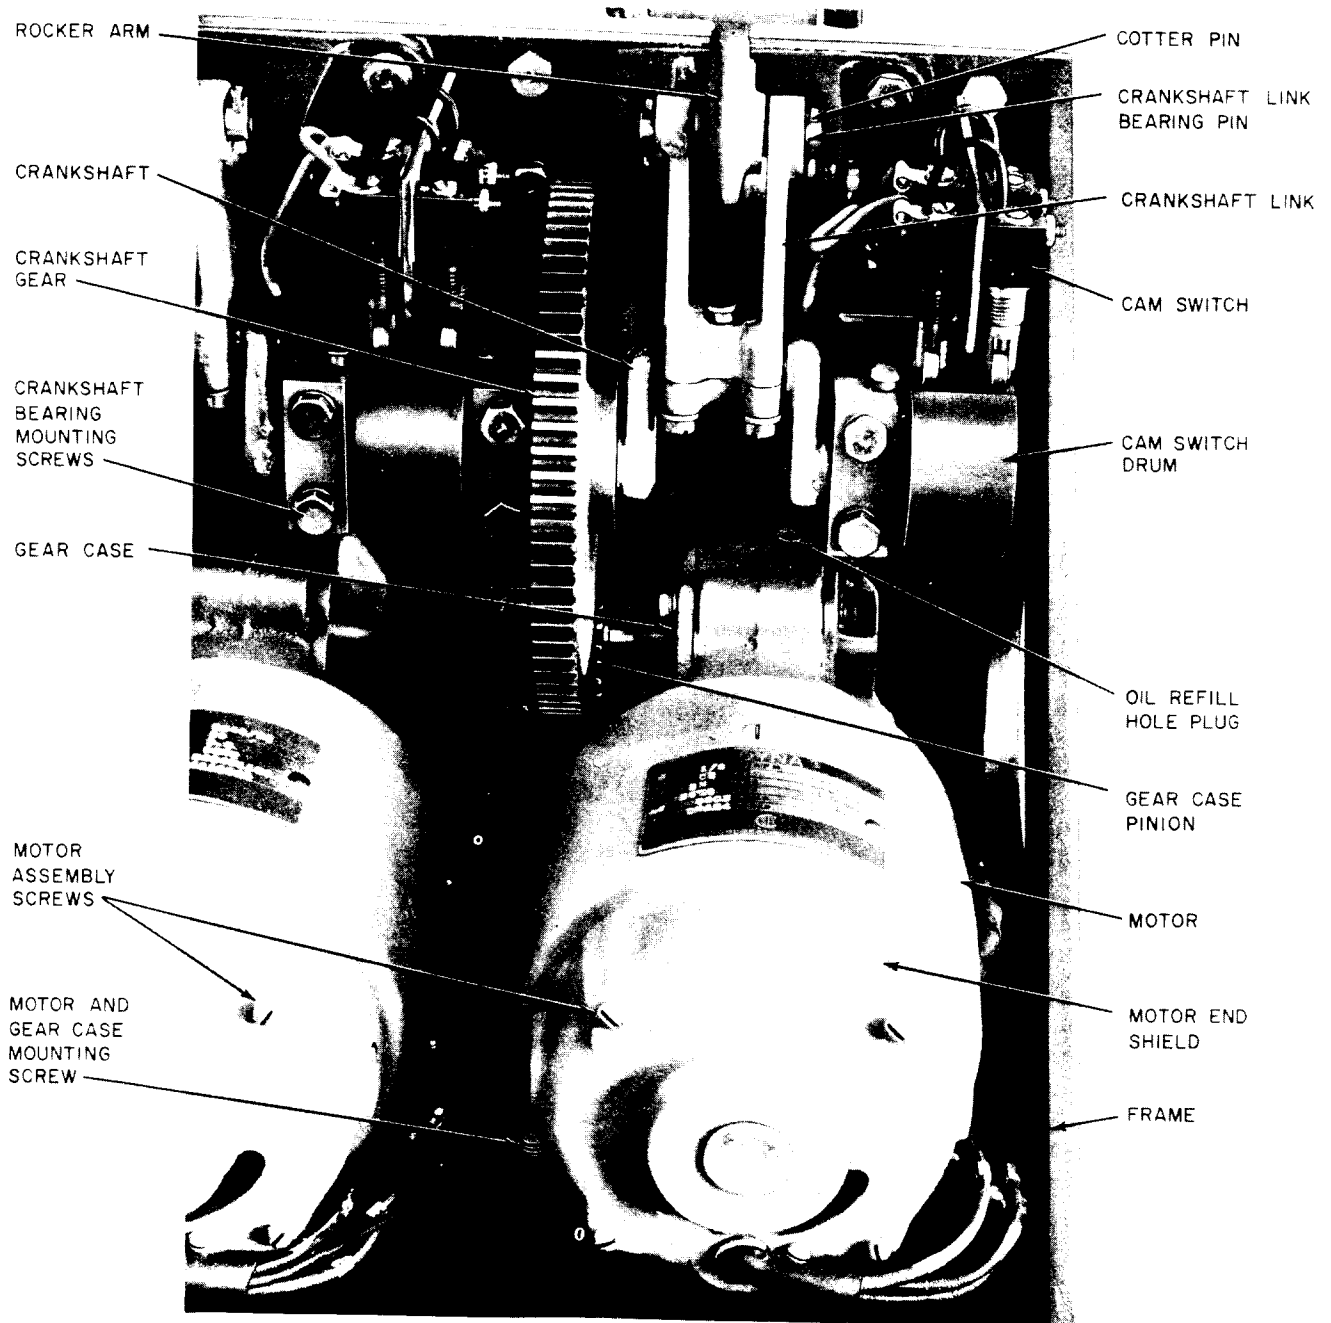

Fig. 4—Portion of KS-15836-Type Motor-Driven Switch Showing Motor and Crankshaft Assembly
1.10 Cam switches shown on Fig. 4 are the new improved type, and any new KS-5502 and KS-15836 switches ordered will include the improved cam switches. It is recommended that the new improved cam switches be applied to existing KS-5502 and KS-15836 switches where the old-type cam switches do not meet the requirements. Refer to Section 030-787-801 for replacement information.
- (b) **KS-5836 Motor-Driven Switch:** Fig. 4—Cam surface and roller followers shall be clean and free of lubricant.
(b) **KS-15836 Motor-Driven Switch:** Fig. 4